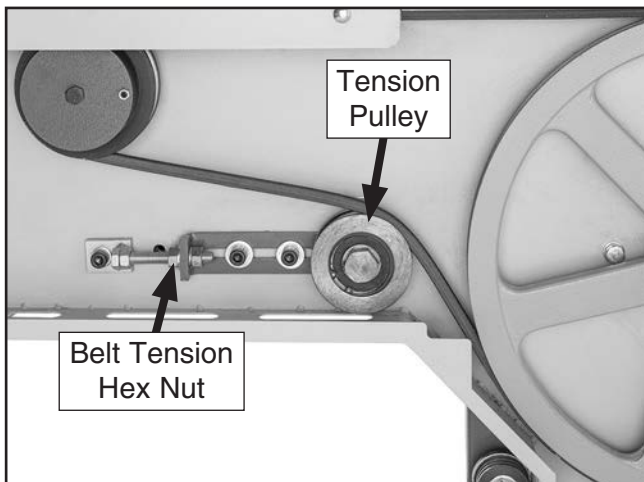

Figure 72. Drive belt tension controls.
- Tighten/loosen belt tension hex nut to adjust tension pulley until drive belt is correctly tensioned (see **Figure 72**).